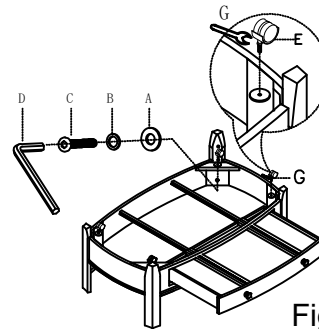

Figure 1
1. Assemble the legs to the bottom drawer box shelf using Bolt (C), Lock Washer (B), Flat Washer (A) and Allen Wrench (D). DO NOT FULLY TIGHTEN! As shown in Figure 1 .
2. Attach the Casters (E) into the bottom rail with Spanner Wrench (G) As shown in Figure 1 .